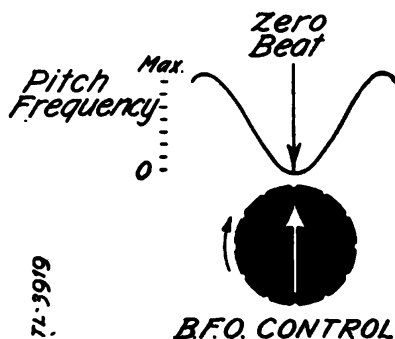

FIGURE 10.—Pictorial representation of zero beat position of receiver beat frequency oscillator control.
(1) Before tuning, warm up receiver for about 20 minutes so that frequency drift will not affect tuning accuracy. Set receiver for manual volume control (MVC) and tune it to the frequency of net control station with receiver beat frequency oscillator (BFO) tuned on. (It is assumed that the net control station is transmitting continuous wave signals.) A heterodyne whistle will be heard when the net control station is transmitting. Set receiver volume control at a low level and tune carefully for the loudest signal. From this point on do not touch receiver tuning controls.
(2) Rotate receiver C. W. OSC. ADJUST. or BEAT FREQ. control. The whistle pitch of the net control station signals will vary from below audibility through a low pitch up to a very high pitch and back down the scale to a low pitch and inaudibility once more as the control is turned. Adjust to the point where the heterodyne whistle has dropped in pitch to inaudibility. This is the point of *zero beat*. If this zero beat adjustment has been properly made, a slight movement of the C. W. OSC. ADJUST. or BEAT FREQ. control in either direction from the zero beat point should bring in a low-pitched whistle as shown in figure 10. When this check has been made, reset the control to the zero beat point.
(3) Using the calibration chart on the transmitter as a guide, tune transmitter (TONE C. W. VOICE switch set at C. W.) to approximate frequency of receiver (see pars. 17*a* and *b* for tuning procedure).
(4) Set receiver SEND RECEIVE switch on SEND.
(5) Set transmitter ANT. COUPLING SWITCH D on 1 and press TEST KEY. A heterodyne whistle should be heard in the receiver. If no whistle is heard, slowly adjust transmitter control B M. O. TUNING, keeping control C P. A. TUNING in step so that total plate current does not rise above approximately 110 milliamperes. Both controls should be moved about 5 or 10 divisions on either side of their original setting until a heterodyne whistle is picked up in the receiver. When the whistle is picked up, reduce receiver volume control setting to the lowest point at which the signal can be still heard. Then adjust transmitter controls B M. O.